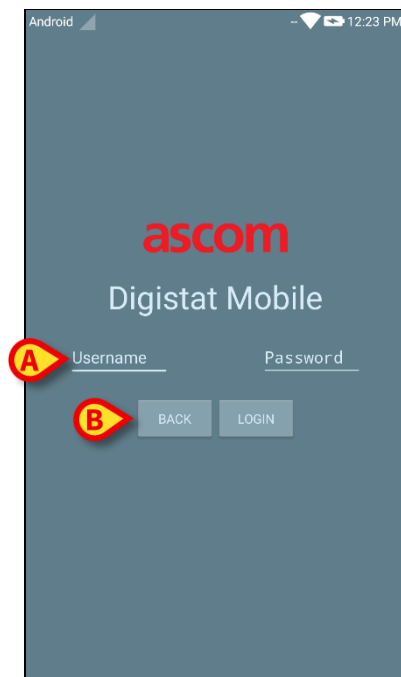

Fig 13
Touch this option to access the login screen (described below - Fig 13) or to log off the application.
The following screen will be displayed (Fig 13)
- Insert username and password (Fig 13 **A**).
- Touch the **Login** button (Fig 13 **B**)